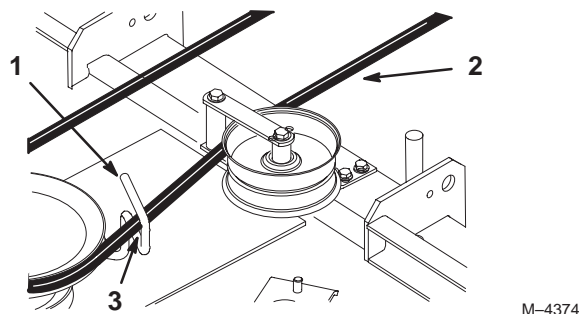

Figure 71
11. Rotate the belt guide, on rear of the mower, so it is 1/8-1/4 inch (3-7 mm) away from the vertical side of the PTO belt (Fig. 71).